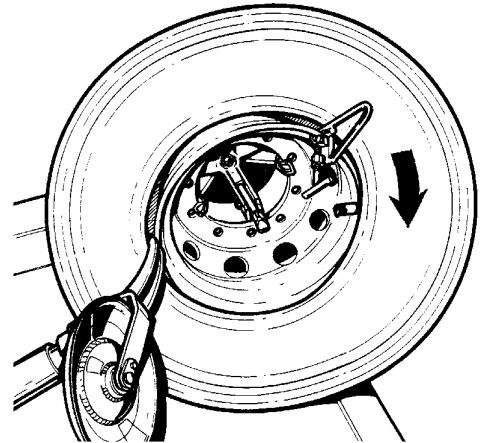

Fig.35
3. Reattach the mounting clamp to the rim flange with the valve after the mounting clamp, following the rotation direction (Fig.35).